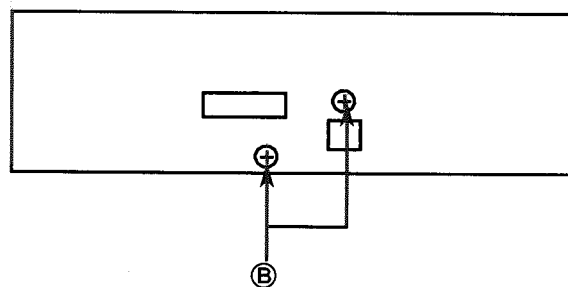

Fig.2
- (1) The level of RF output (EFM output: amplitude of eye pattern) will be low.
- (2) The drive current required by the laser diode will be increased. In such a case, check the life of the laser diode following the flowchart below.
(3) Measurement of laser diode drive current (Fig.2)
(See the following Fig.2)
(Fig.2)